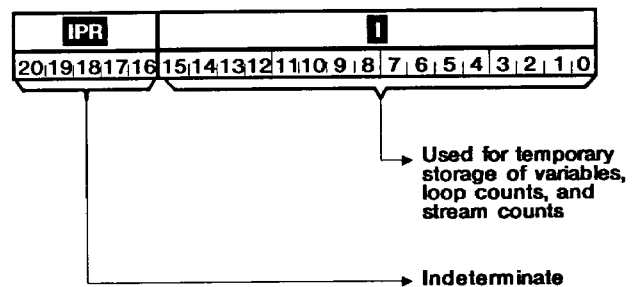

FIGURE 12. RETURN STACK ( I and IPR ) BIT FIELD ASSIGNMENTS
**I**: The **Index Register** contains 16 bits of the 21-bit top element of the Return Stack, and is also used to hold the count for streamed and loop instructions (see Figure 12). In addition, **I** can be used to hold data and can be written from **TOP**. The contents of **I** may be accessed in either the push/pop mode in which values are moved to/from stack memory as required, or in the read/write mode in which the stack memory is not affected. When the Streamed Instruction Mode is used, a value (count) is written to **I** and the next instruction is executed that number of times plus one (i.e.  $n+1$ ).
**IPR** : The **Index Page Register** extends the **Index Register ( I )** by 5 bits, i.e. when a Return From Subroutine is performed, the **IPR** contains the Code page from which the subroutine was called, and comprises the 5 most significant bits of the top element of the Return Stack. See Figure 12.
The bit fields of the Return Stack take on different assignments, depending upon whether the processor is performing a subroutine operation, as indicated in Figure 12.